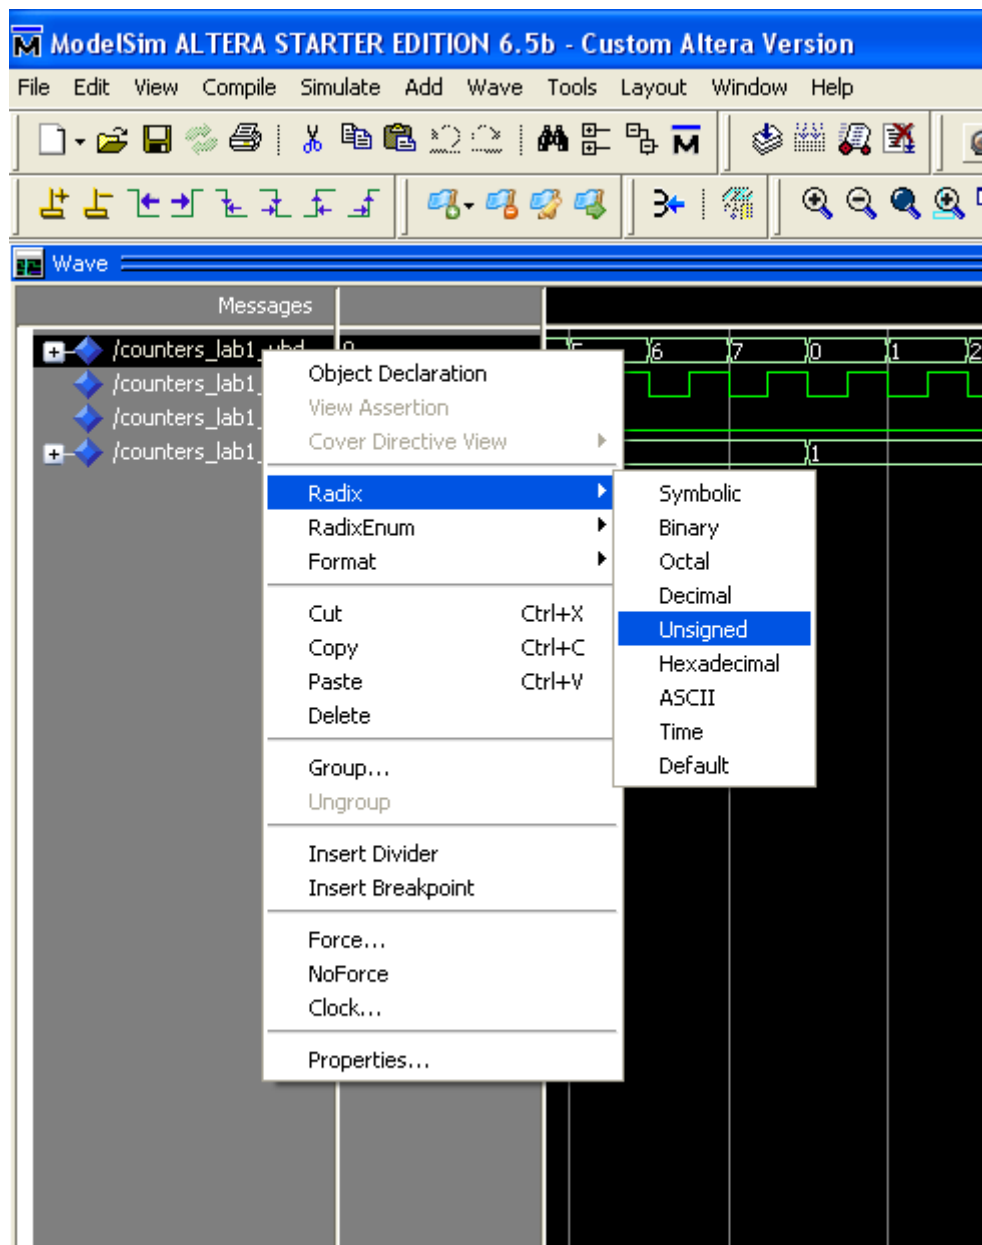

Figure 11
- b. To change the value of the bit and word counter in the simulations from binary to decimal you can select the signal names, right click and select **Radix – Unsigned**, se Figure 11.